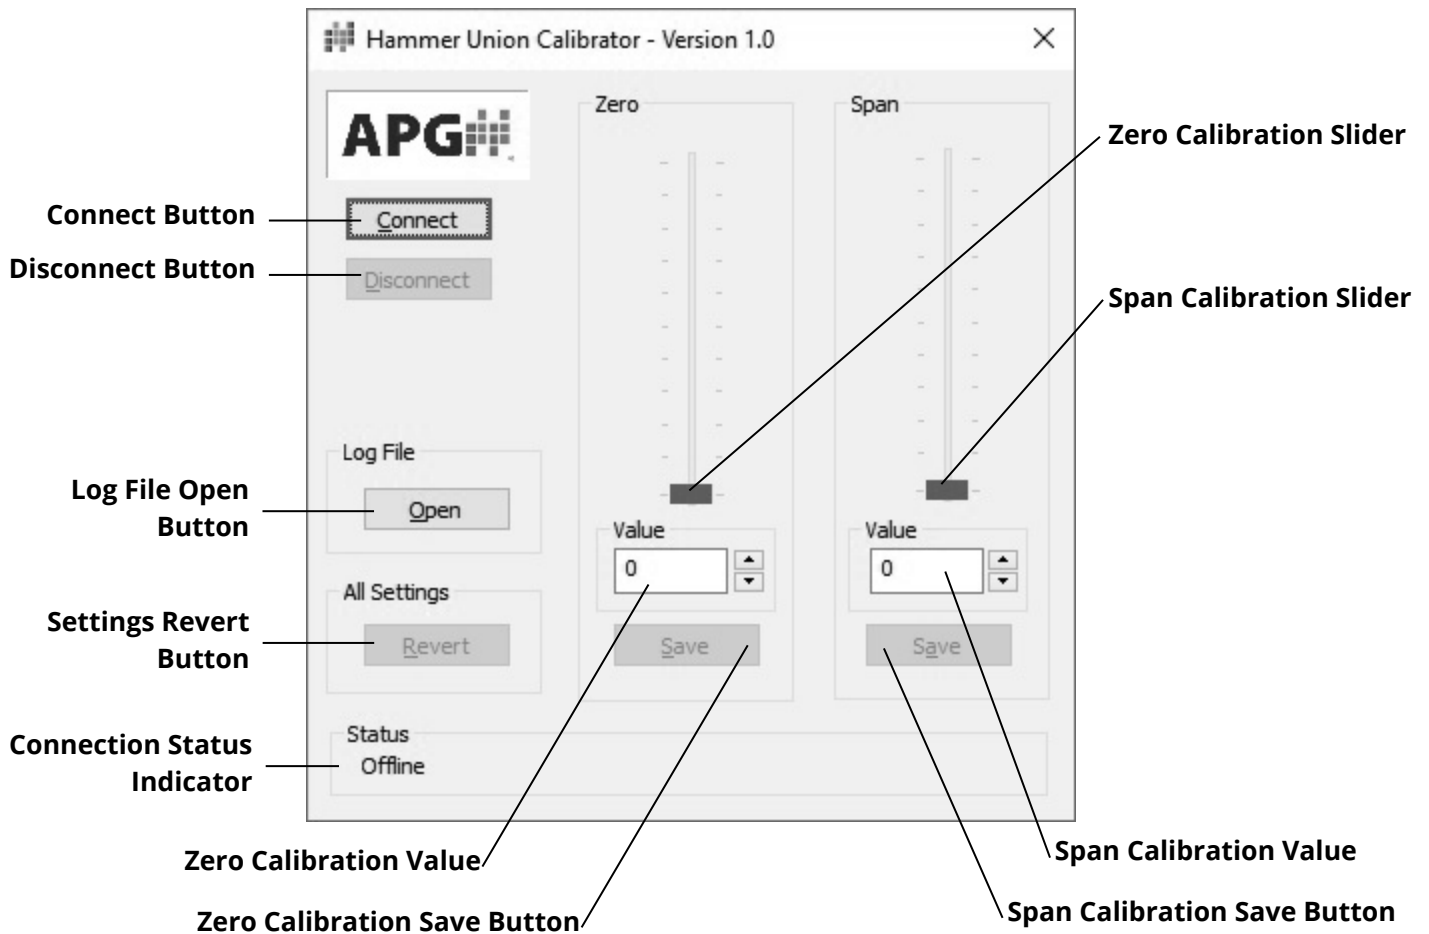
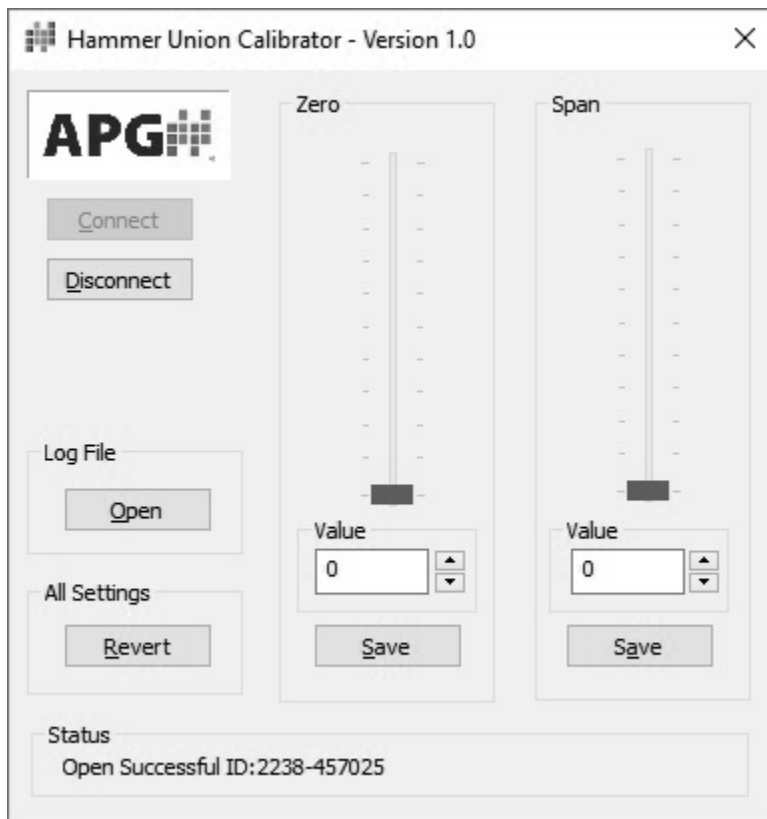

Figure 4.3
Figure 4.4
3. Click Connect Button (See Figure 4.3) to initiate connection between Hammer Union Calibrator software and HU1502I. Wait for Connection Status Indicator to read “Open Successful” (See Figure 4.4).
4. With 0 pressure applied to the HU1502I, adjust Zero Calibration Slider (See Figure 4.3) until ammeter reads 4 mA or voltmeter reads 0 VDC, to the desired precision. Allow 1 second for ammeter/voltmeter reading to stabilize after adjusting slider.
pencil **Note:** Any adjustments made can be discarded BEFORE clicking a Calibration Save Button by clicking the Settings Revert Button (See Figure 4.3). Slider position and value will not reset, but ammeter/voltmeter reading will reset to value prior to slider adjustment.